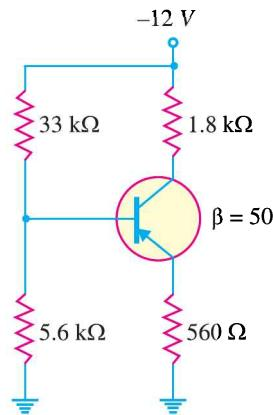

Fig. 9.57
16. (i) Determine the base voltage  $V_B$  in Fig. 9.57.
17. (i) Find the Q-point values for Fig. 9.57.
(ii) Find the minimum power rating of transistor in Fig. 9.57. [(i) 1.41 mA ; - 8.67V (ii) 12.2 mW]